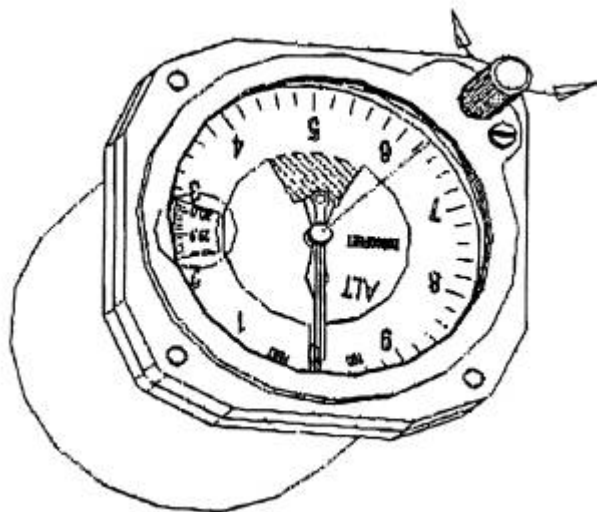

Figure 6
6. Turn the altimeter 180° (Figure 6) and pat the altimeter to let part No. 1 back to its position.